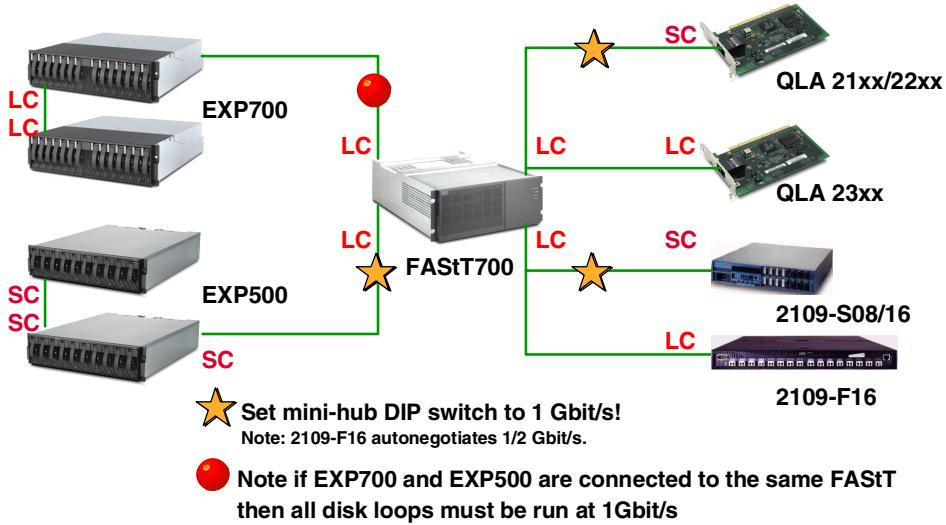

Figure 2-19 Connectors and cable types
- When planning the cabling from FAStT700, use care to ensure that the correct cables are ordered with the correct connectors, SC or LC. Figure 2-19 shows the types of connectors that are used by different components. Therefore, you need converters to connect FAStT700 and EXP500, as well as FAStT700 and older HBAs and switches.